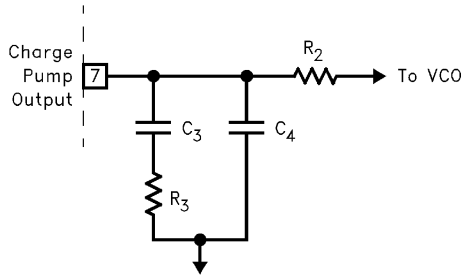

FIGURE 12. TYPICAL LOOP FILTER
6. Notice R2 has little effect on the loop filter design. R2 should be large, around 100k, and can be adjusted to compensate for any static phase error T0 at lock, but if made too large, will slow loop response. If R2 is made smaller, T0 (see “Timing Diagrams” on page 5) increases, and if R2 increases, T0 decreases. For LDET to be low at lock, |T0| < 50ns. C4 is used mainly to attenuate high frequency noise from the charge pump. The effect these components have on-time to lock is illustrated in Figure 12.